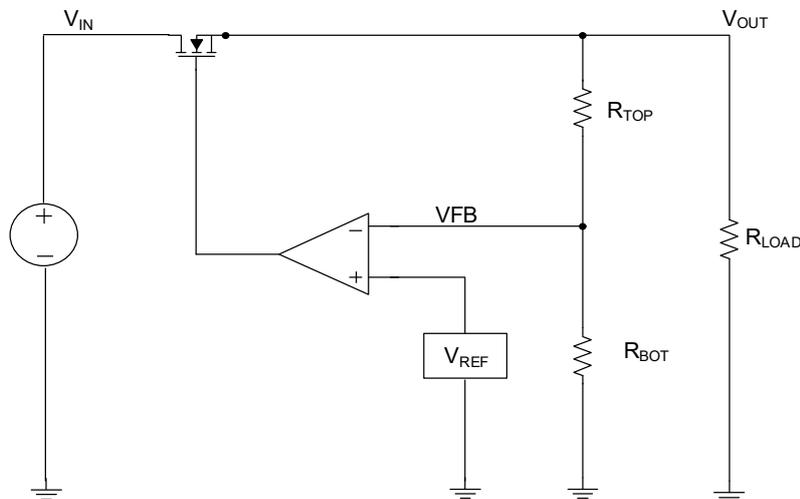

Figure 42. Simple NMOS LDO Regulator Block Diagram
Like the majority of LDOs with an NMOS pass transistor, the RRP51045 output voltage (V_{OUT}) regulation can be modeled with a voltage reference (V_{REF}), feedback (FB) resistors, error amplifier, and NMOS pass-transistor as shown in Figure 42.